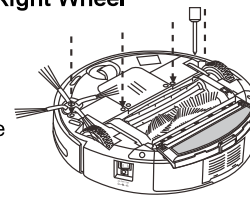

Figure 1
1. Release the screw of the left/right wheel with a screwdriver (Refer Fig 1).